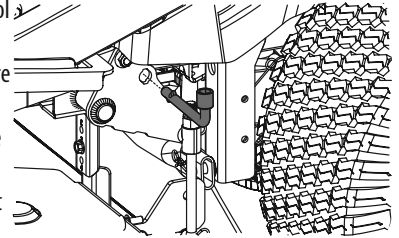

Figure 47
5. Use the deck lift pedal and deck lift knob to place the deck in the lowest position and use the multi-tool to lock the deck lift components in place. There are a pair of alignment holes by the rear wheel on the left side of the tractor (one on the frame and one on the deck lift arm) as shown in Figure 47. Ensure tool is fully inserted properly, locking the deck lift arm in place to the frame.